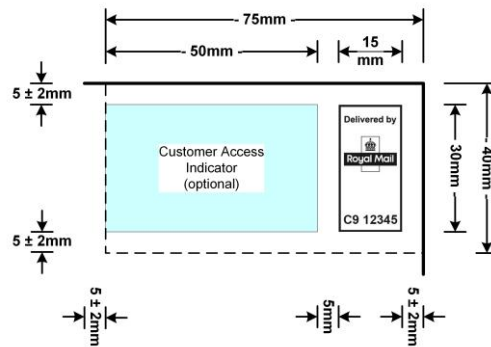

Figure 3: Indicia positioning and size (large)
- An example of the Royal Mail Access Indicator is shown below at Figures 3 and 4 demonstrating the characteristics and positioning requirements when applying a large or small Royal Mail Access Indicator. Our Indicia page of our Website also provides details of the mandatory print and design specifications for the two sizes available and positioning requirements of the Royal Mail Access Indicator on all Mailing Items. A copy of the actual Indicium template, which you must comply with, will be available to you (once your Credit Account has been set up) to download from the Website. You must get our written approval for all designs and subsequent design changes. We require at least two months' written notice of design proposals prior to any requested implementation date. You may not use any designs before we have given you our written approval. This notice period allows us to carry out technical testing and other approval procedures.
- The Customer Access Indicator is optional for you to use on Mailing Items but there are design and location constraints. Figures 3 and 4 below demonstrate the size and positioning requirements when using either a large or small Customer Access Indicator.